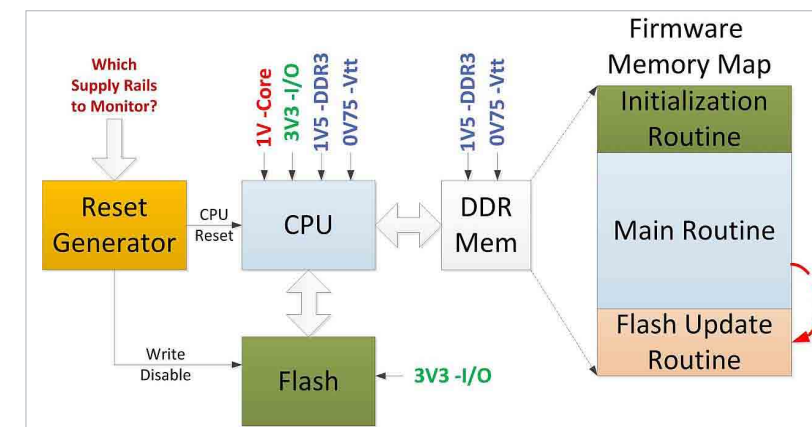

Figure 1: Typical CPU section and firmware memory map
**Figure 1** illustrates a typical circuit board's CPU circuitry. When the power turns on, the reset generator first activates the CPU reset signal. It then waits until the power to the CPU, the Flash memory, and the DDR memory each reaches its correct
For example, the core-voltage specification of the CPU in figure 1 is  $1.2\text{ V} \pm 5\%$ . If the voltage drops below this level, the ability of the CPU's internal instruction execution pipeline to reliably transfer instructions and data is compromised and—depending on the CPU's process and operating temperature—the instruction can incorrectly execute.
The reset generator activates both the CPU-reset signal as well as the write-protection signal to the Flash memory. In some cases, the reset generator output does not apply directly to the CPU. Instead, it connects to a CPLD, which executes a reset-distribution algorithm. In such cases, the write-protection signal for the Flash should be set because the CPU may not reset as soon as the power-supply voltage becomes faulty. The reset generator IC in figure 1 monitors all CPU rails—1.0, 3.3, 1.5, and 0.75 V—and activates the reset signal and Flash write-protect signals when any one of them drops below their operating threshold levels.
excursions below corresponding operating threshold levels. In the case of figure 1, four inputs are required with thresholds set at 5% below the nominal operating voltage levels. For example, Lattice power management ICs support six to 12 voltage-rail-monitor inputs, and the reset generation threshold levels can be programmed from  $-0.5\%$  to  $-20\%$ .